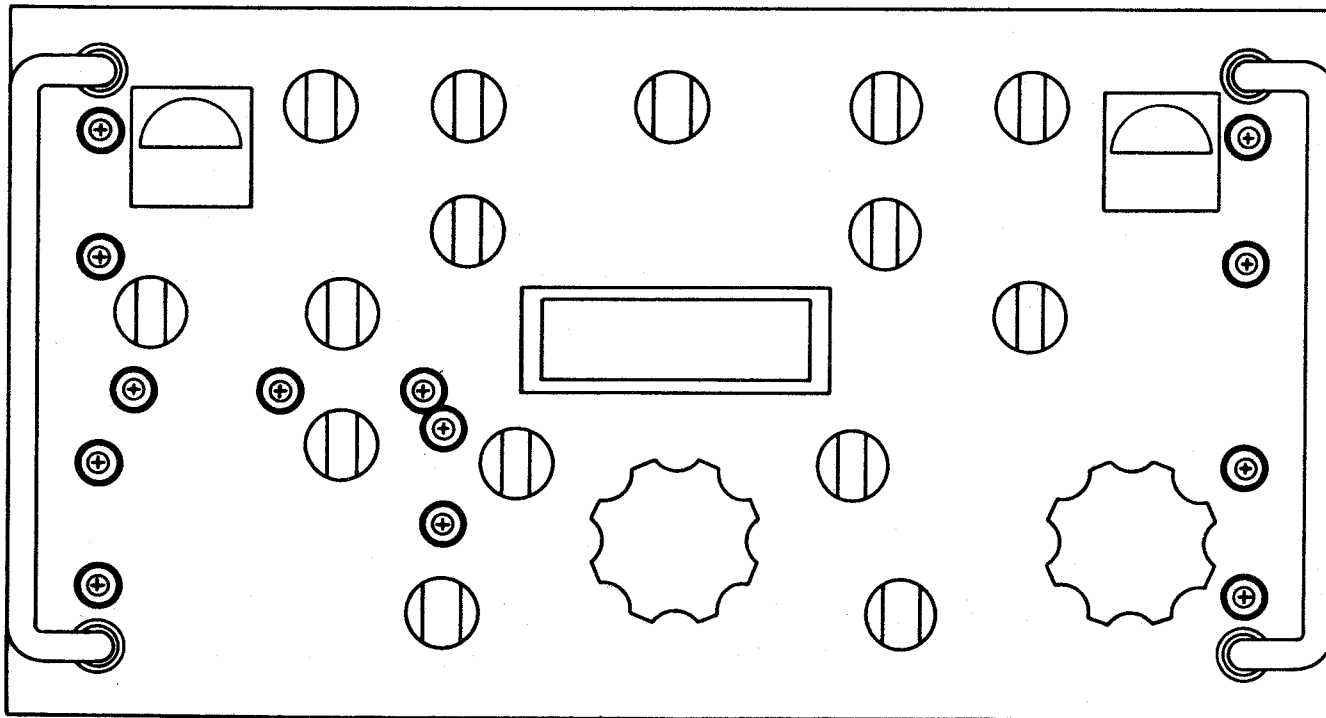

Figure 6-9. Location of Panel Mounting Screws
6.3.1.1 All the threaded fasteners that secure the subassemblies to the main frame of the receiver are color coded with green screwheads. Loosen and remove only these screws unless otherwise instructed. The only exceptions to the use of the green-headed screws are the front-panel screws that secure the front panel of the receiver (figure 6-9). Some of the securing screws are the conventional threaded type, and the remainder are captive screws. Captive screws remain attached to the subassembly that they secure when the subassembly is removed from the main frame. All captive and mounting screws are loosened and removed with the Phillips screwdriver supplied with the receiver. All knobs, shaft couplers, gears, and cams are loosened and removed with a no. 8 Bristo (fluted) wrench.
6.3.2 Removal and Replacement of Front Panel. (See figure 6-9.) The front panel must be removed whenever the removal of the RF subchassis and its RF gear train assembly is required. Follow the procedures in the order listed in paragraph 6.3.2.1 to prevent damage or mechanical misalignment of the tuning system.